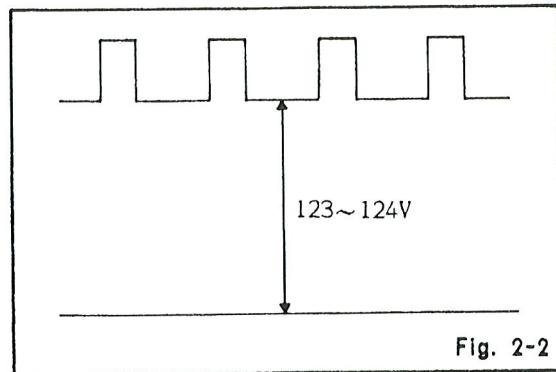

Fig. 2-2
4. Adjust VR402 to obtain $123 \sim 124V$ as shown in Fig. 2-2.